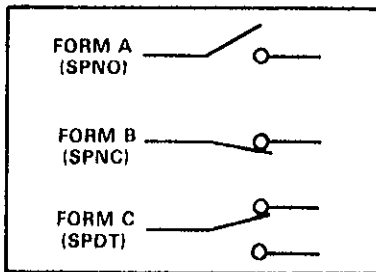

Figure 1. Switch Terminology
1. Form A is simply a single pole normally open (SPNO) switch (refer to Figure 1). A 2-pole switch normally open is classified as a 2 Form A.
2. Form B is similar to Form A except that its contacts are normally closed (refer to Figure 1). A 2-pole switch normally closed is classified as a 2 Form B.
3. Form C is shown in Figure 1 as a single pole double throw switch. It could also be a multiple switch such as a 2-pole which would be classified as a 2 Form C.